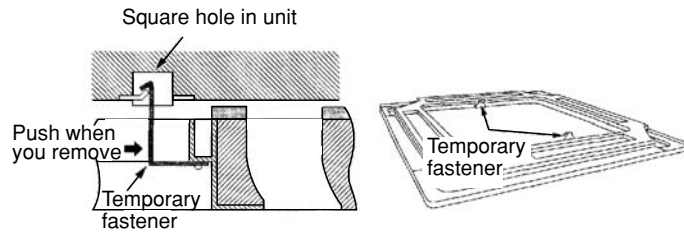
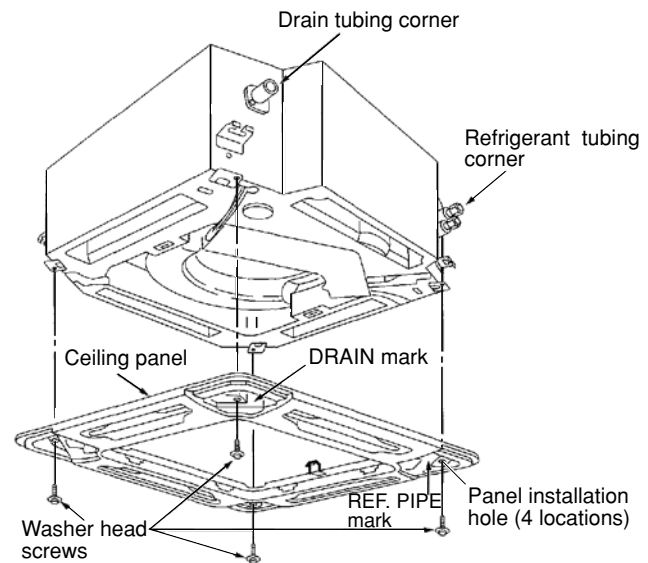
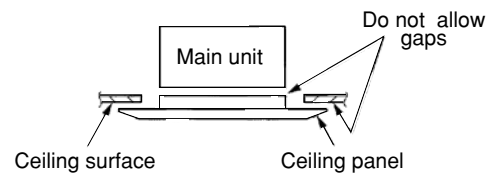

Fig. 9-15
Fig. 9-16
Fig. 9-17
(1) Insert the temporary fasteners (stainless steel) on the inside of the ceiling panel into the square holes on the unit to temporarily fasten the ceiling panel in place. (Fig. 9-15)
- To remove the ceiling panel, support the ceiling panel while pressing the temporary fasteners toward the outside. (Fig. 9-15)
(2) Align the panel installation holes and the unit screw holes.
(3) Tighten the supplied washer head screws at the 4 panel installation locations so that the panel is attached tightly to the unit. (Fig. 9-16)
(4) Check that the panel is attached tightly to the ceiling.
- At this time, make sure that there are no gaps between the unit and the ceiling panel, or between the ceiling panel and the ceiling surface. (Fig. 9-17)